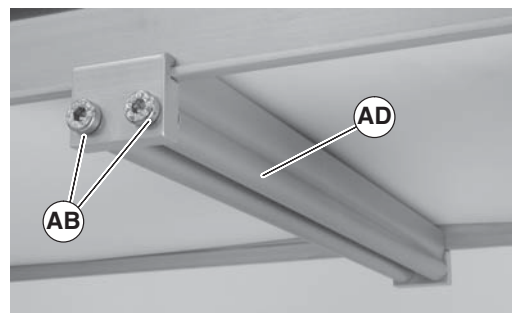

Figure 12
3. Install roller assembly as shown (Figure 12, item AD). Tighten screws (AB) to 60 in-lb (7 Nm).